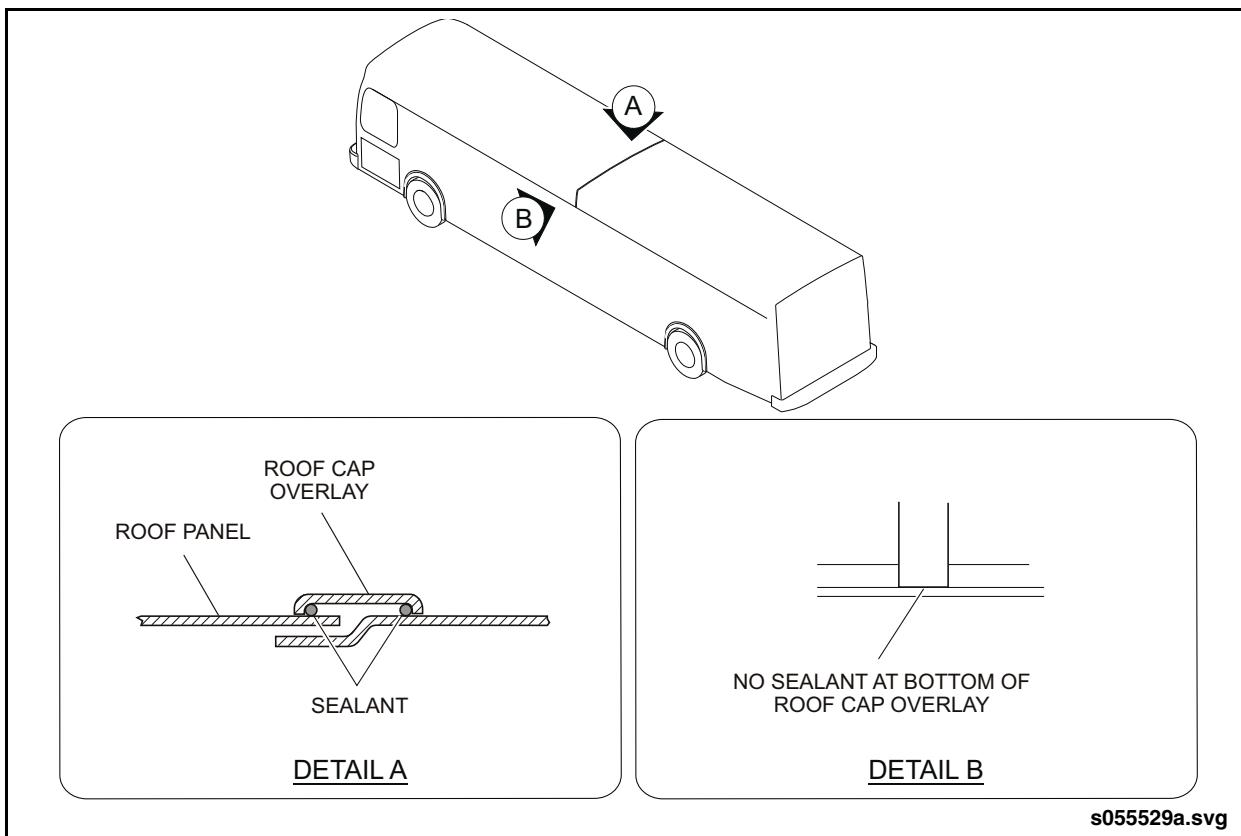

Fig. 13-8: Roof Cap Overlay Installation
1. Dry fit the roof cap overlay to the roof panels where the roof panels meet. The overlay must be centered over the roof panel seam and fit flush. See "Fig. 13-8: Roof Cap Overlay Installation" on page 23.